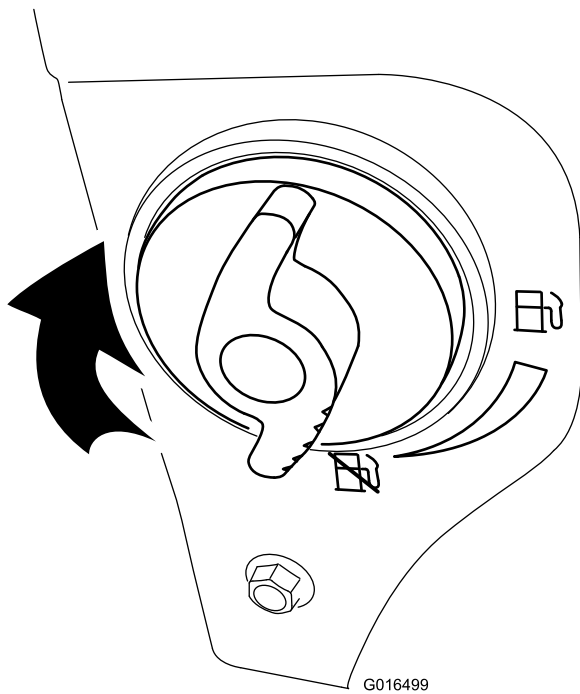

Figure 23
4. Close the fuel-shutoff valve by rotating it clockwise (Figure 23).